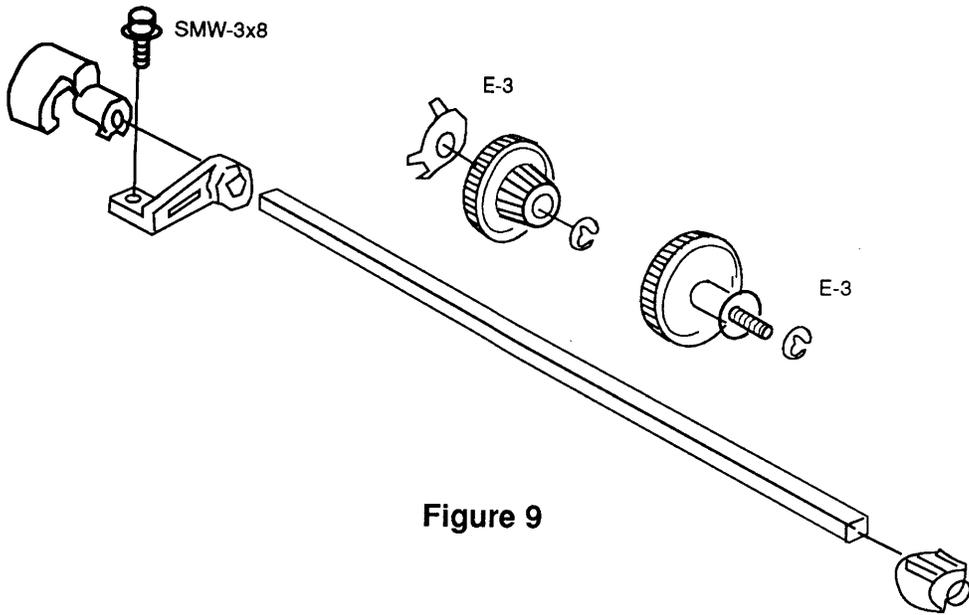

Figure 9
□ SHIFT GEAR ASSEMBLY (Figure 9)